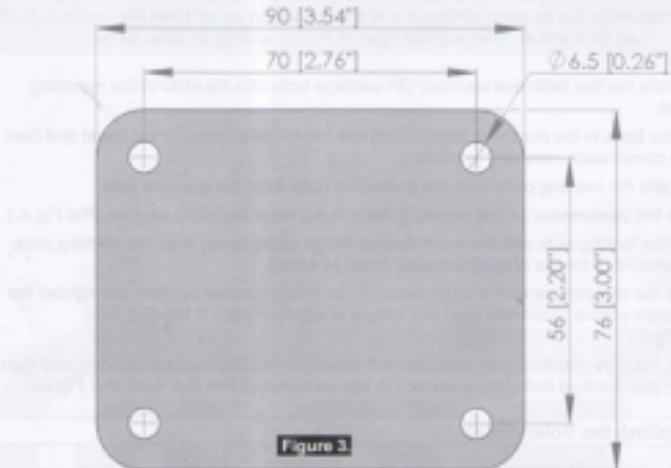

Figure 3.
- Establish the mounting hole locations for the compressor by using the compressor backing plate as a template, or referring to Fig. 3. for exact sizes.